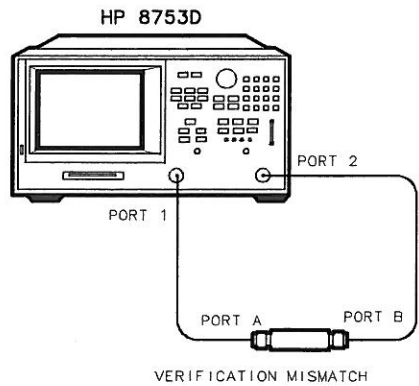

Figure 1-6. Mismatch Device Verification Setup
39. When all measurements are complete, replace the verification device with the verification mismatch, as shown in Figure 1-6. Be sure that you connect Port A of the verification mismatch to reference test port 1.